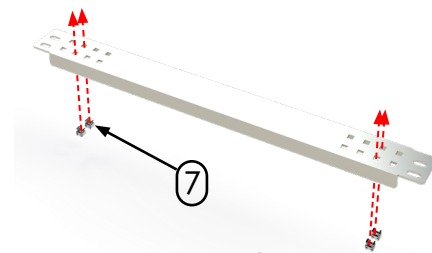

Figure 2
- Insert four flanged cage nuts (Item 7) from the bottom into each horizontal rail (Figure 2).